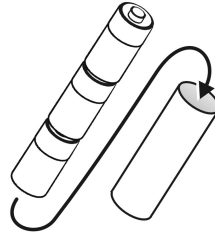

Figure 7
1. Place 3 “C” size alkaline batteries into the carton cylinder, each in the same direction, as shown in Figure 7 below.